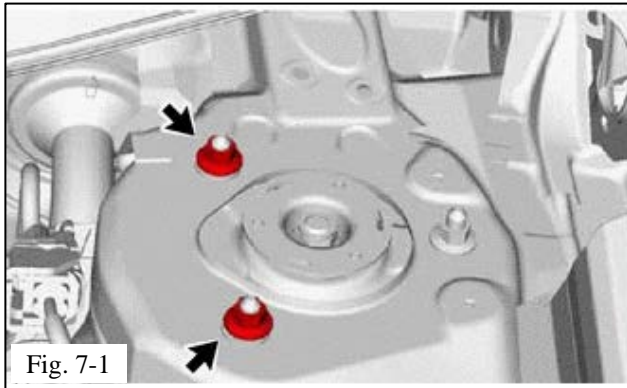

Fig. 7-1
- (a) Remove the 2 nuts on each side temporarily installed from the upper support studs (Fig. 7-1).